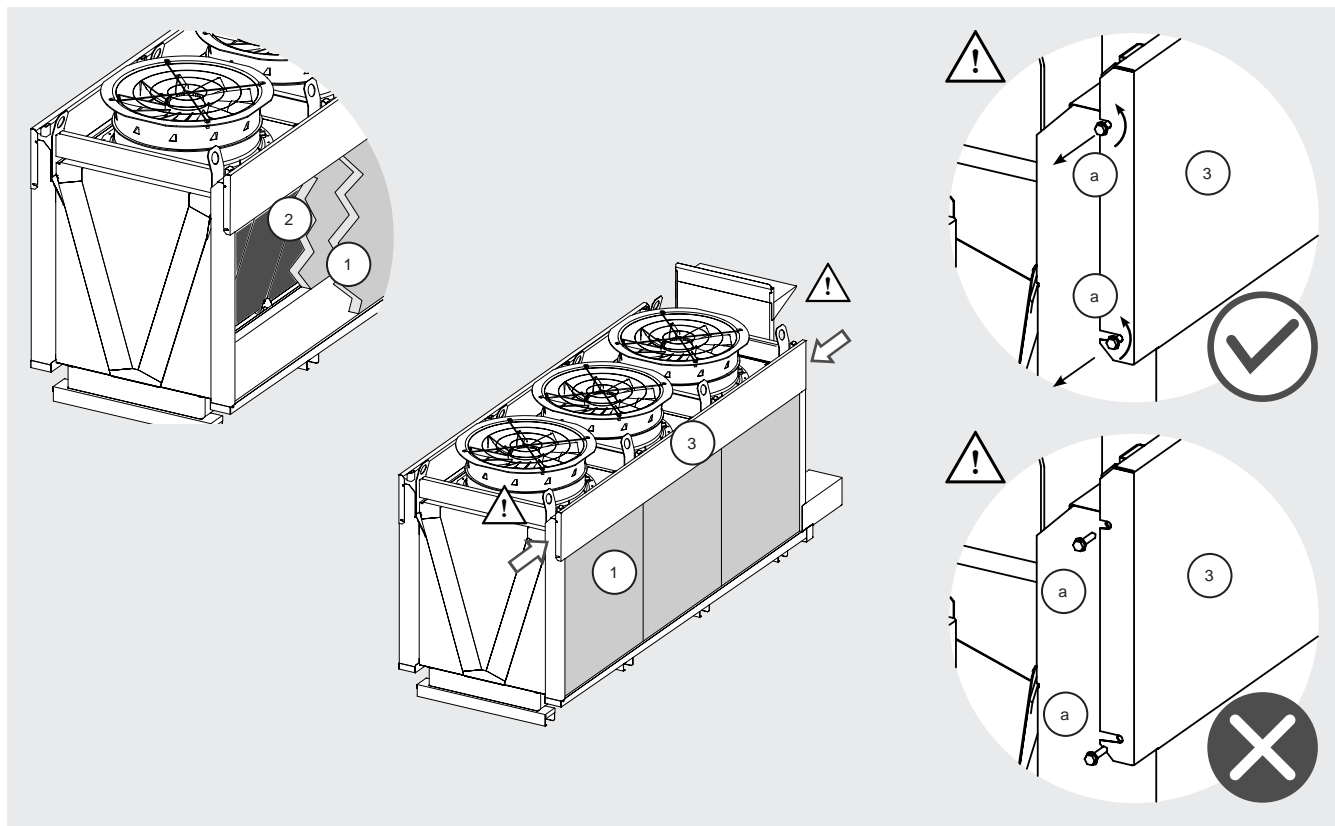

Figure 20
12.11.6 To clean or replace the panels, first remove the outer panels (1) and then the inner panels (2). See Figure 20.
- 12.12.4 Unscrew the screws securing the cover (3) of the nozzle compartment according to Figure 20. Open the nozzle compartment by lifting the cover (3) as seen in 12.11.8.